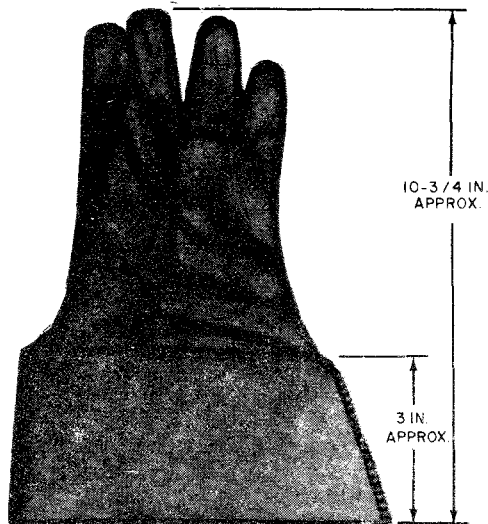

Figure 3 - Fabric Liner Glove
5.01 The C fabric liner gloves (Fig. 3) are form fitting gloves made of knit cotton cloth, equipped with 3-inch wide fabric gauntlets, and laminated with polyvinyl chloride.